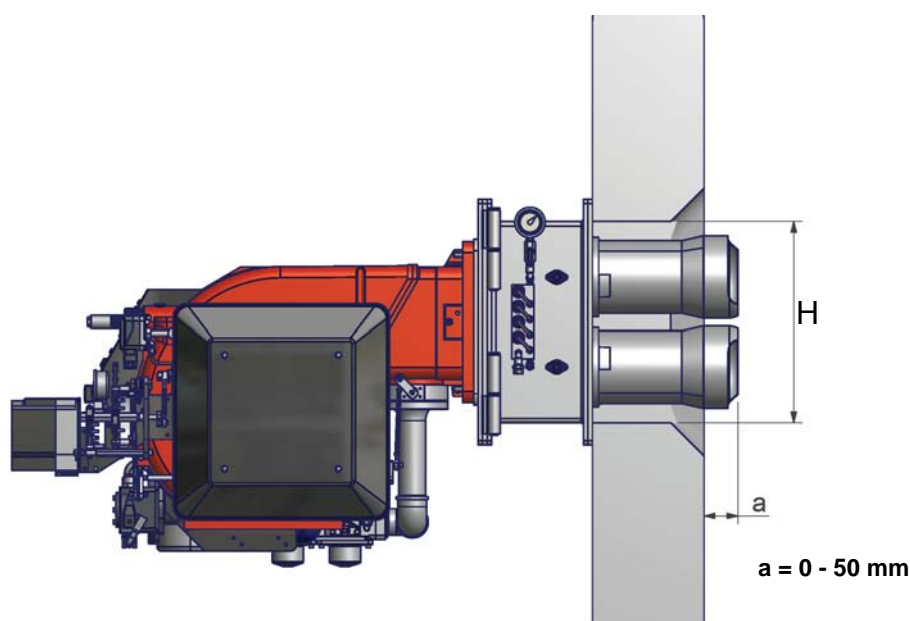

Fig. 3
- 4 fix the burner to the stud bolt, by means of the fixing nuts, according to Fig. 3.